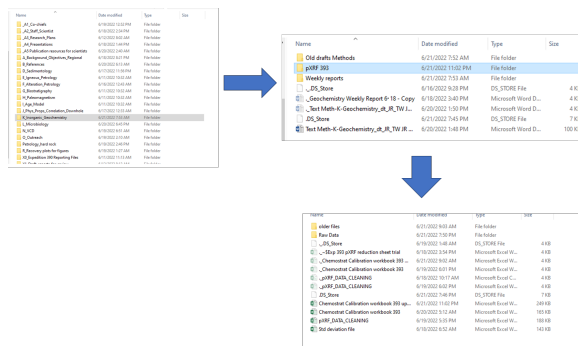

Figure 20. Save the data to Uservol under the following folders.
7. Go to **Uservol** → **K_Inorganic_Geochemistry** → **pXRF 393** → **Raw Data** (Figure 20).
11. Save the file to **Uservol** → **K_Inorganic_Geochemistry** → **pXRF 393** → **Raw Data** (Figure 20) for Exp 393.